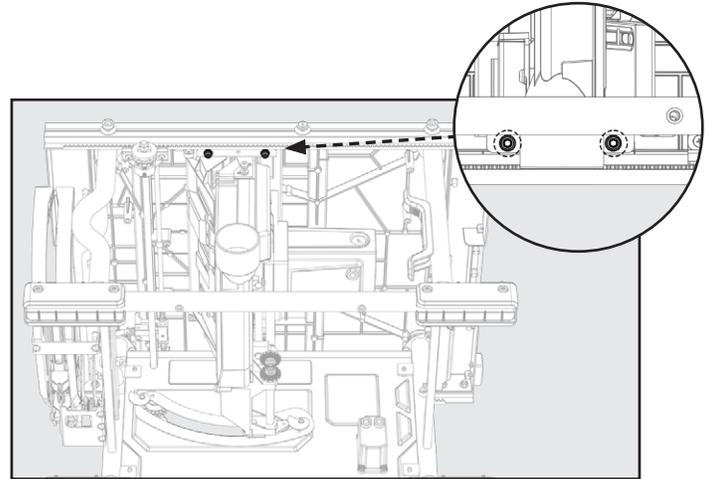

Figure 34
3. Loosen the front trunnion bolts using a 5mm Hex Wrench, found below the table top. See Figure 34.